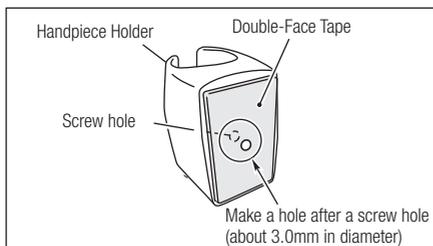

Fig. 3
- 1) Make a 3 mm hole in the Double-Face tape behind the screw hole in handpiece holder. (Fig. 3)